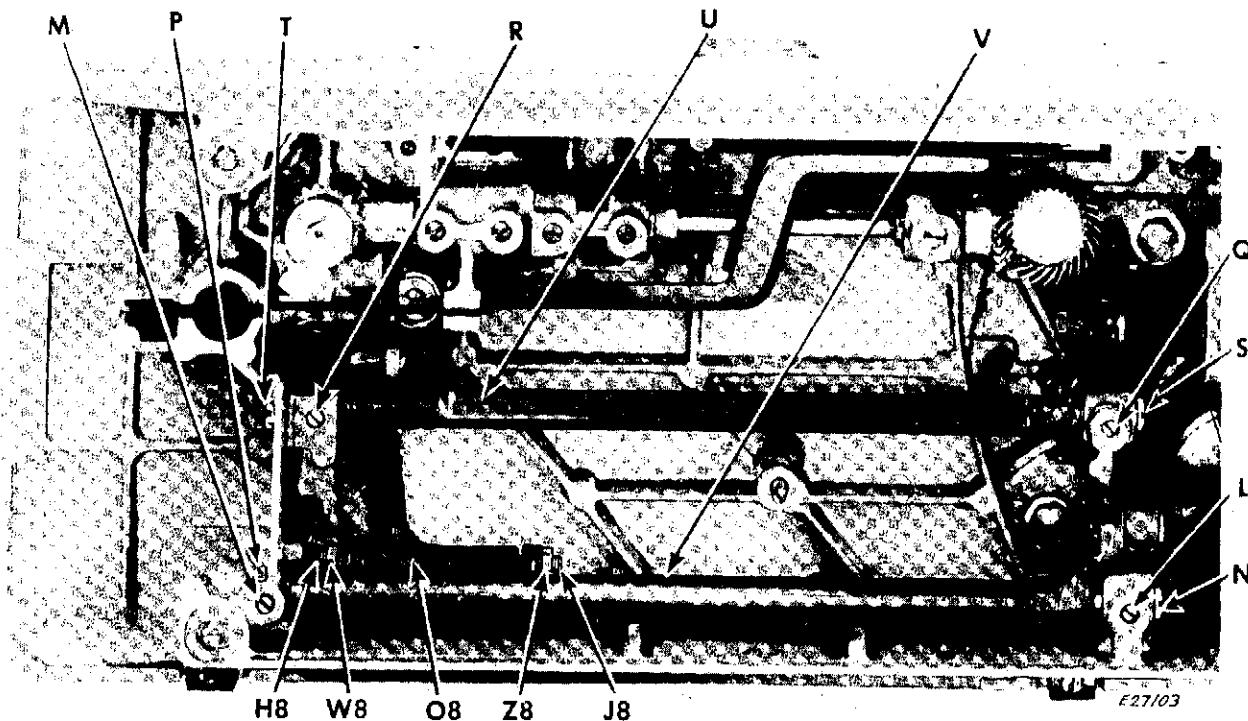

Fig. 275. Setting Feed Sidewise
Loosen set screws **L** and **M**, Fig. 275 that hold screw centers **N** and **P** and feed rock shaft **V** in position.
Loosen set screws **Q** and **R**, Fig. 275 that hold screw centers **S** and **T** and feed lifting rock shaft **U** in position.
When feed dog is centralized in throat plate, make certain screw centers **N** and **P** hold feed rock shaft snugly (without end play or binding). Then securely tighten set screws **L** and **M**, Fig. 275.
Tighten screw centers **S** and **T** equally upon feed lifting rock shaft **V** so that shaft **V** rides freely without end play or binding. Then securely tighten set screws **Q** and **R**, Fig. 275.
**NOTE:** Check for end play or binding in feed bar **O8**, Fig. 275. To adjust, loosen nuts **W8** and **Z8** and turn screw centers **J8** and **H8**, as required. Recheck sidewise position of feed dog, and adjust if necessary, as instructed above. Tighten nuts **W8** and **Z8**.